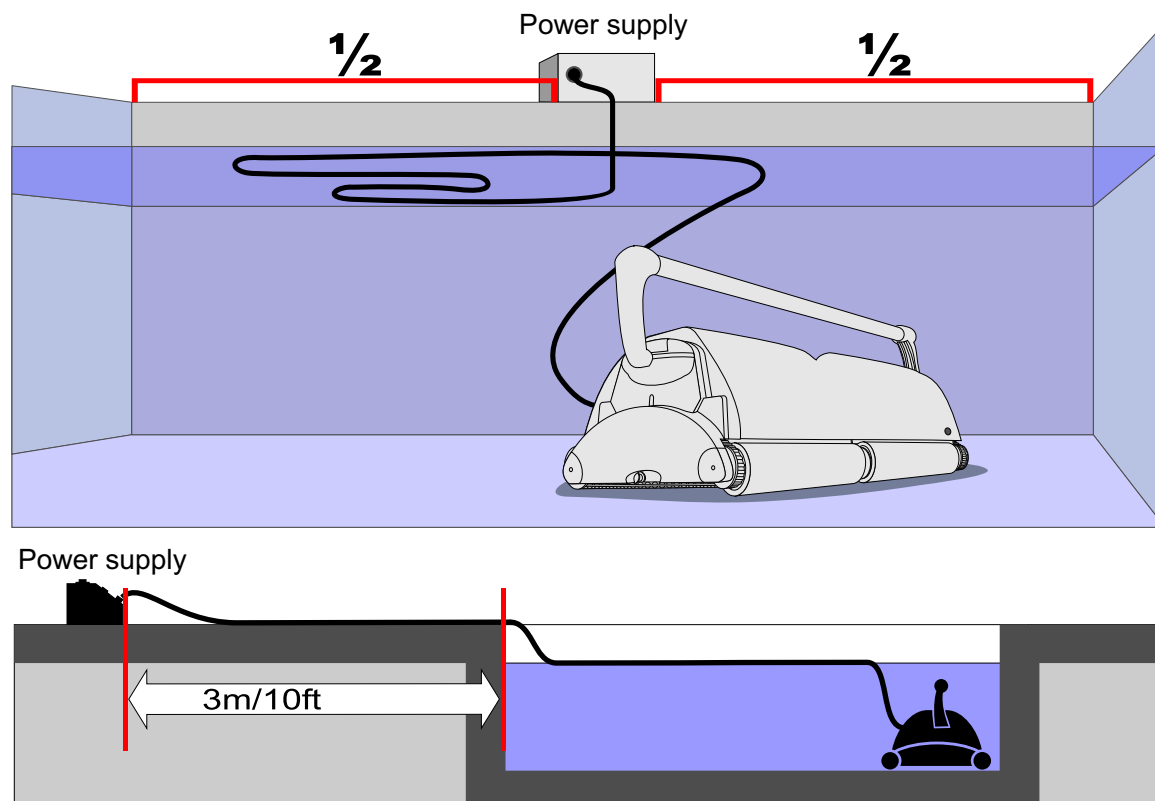

Fig. 1
The power supply unit should be placed in any sheltered area, at least 3 meters (10 feet) away from the swimming pool. Additionally, the power supply should not be left out in rain or placed in puddles of water. If possible, place the power supply half the distance of the length of the pool. (fig.1) This will allow the cable and the unit to reach any corner of the pool. The enclosed power supply is configured for ONE of the following inputs:
- 4) Uncoil the floating cable fully and spread it over the pool water surface as evenly as possible. Make sure the cable has no tangles or kinks. (fig. 1)